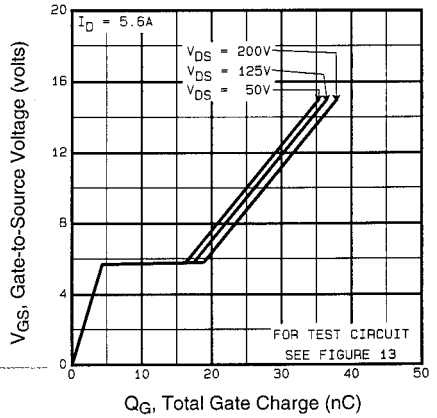

Fig 6. Typical Gate Charge Vs. Gate-to-Source Voltage
| Q_{gd} | Gate-to-Drain ("Miller") Charge | — | — | 22 | nC | $V_{GS}=10V$ See Fig. 6 and 13 ④ |